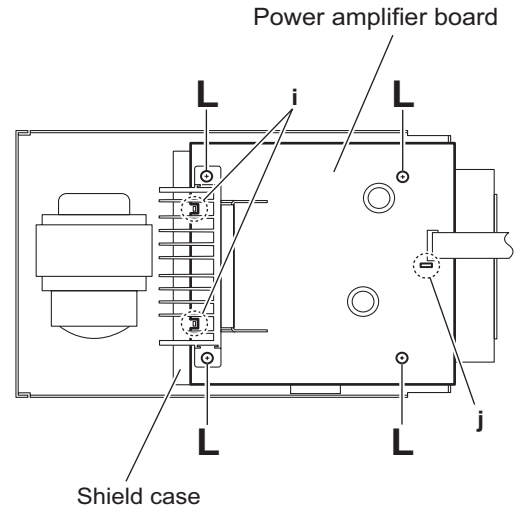

Fig.18
3.1.10 Removing the power amplifier board (See Fig.18)